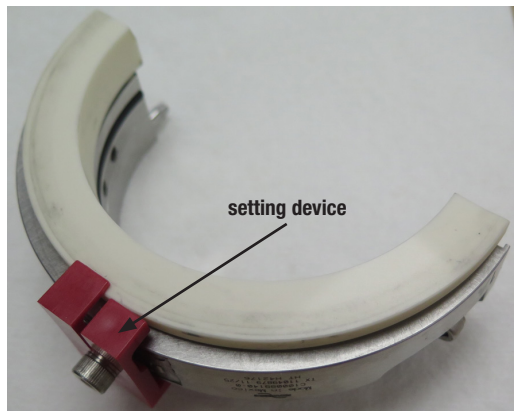

Figure 16
- 5.10 Place the setting device over the locating hole and secure with the cap screw. The setting device mechanically maintains the rotor face offset for installation. See Figure 16 and 17.